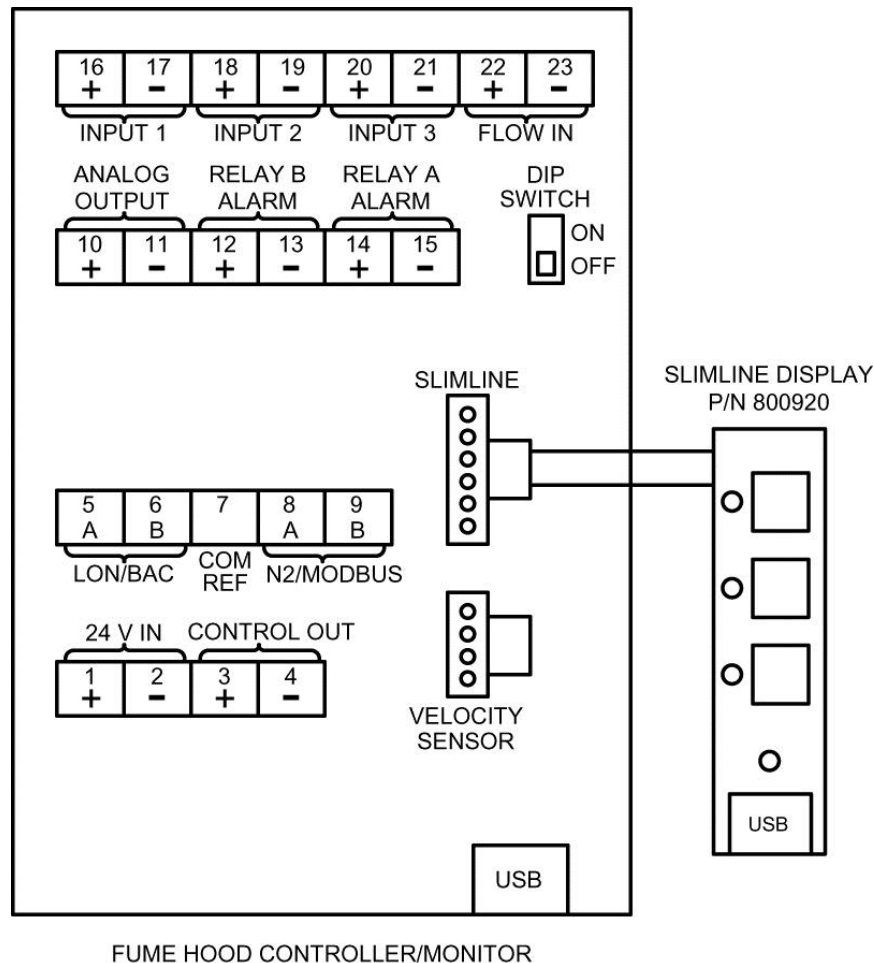

Figure 4: FHS5 Cable Connection to FHC50/FHM10
2. Note that the FHC50 Controller or FHM10 Monitor will be mounted in some other location on the fume hood. The cable connector end of the FHS5 Slimline Display should be routed to the FHC50/FHM10 location and connected to the back of that unit (Figure 4). The length of the FHS5 Slimline Display cable is 10 feet (3 m).
6. Route the cable to the location of the FHC50 or FHM10 and connect the cable to the unit in the designated location (Figure 4).
3. Route the cable to the location of the FHC50 or FHM10 and connect the cable to the unit in the designated location (Figure 4).
The connection of the FHS5 cable to the FHC50 Controller or FHM10 Monitor is shown below (Figure 4).